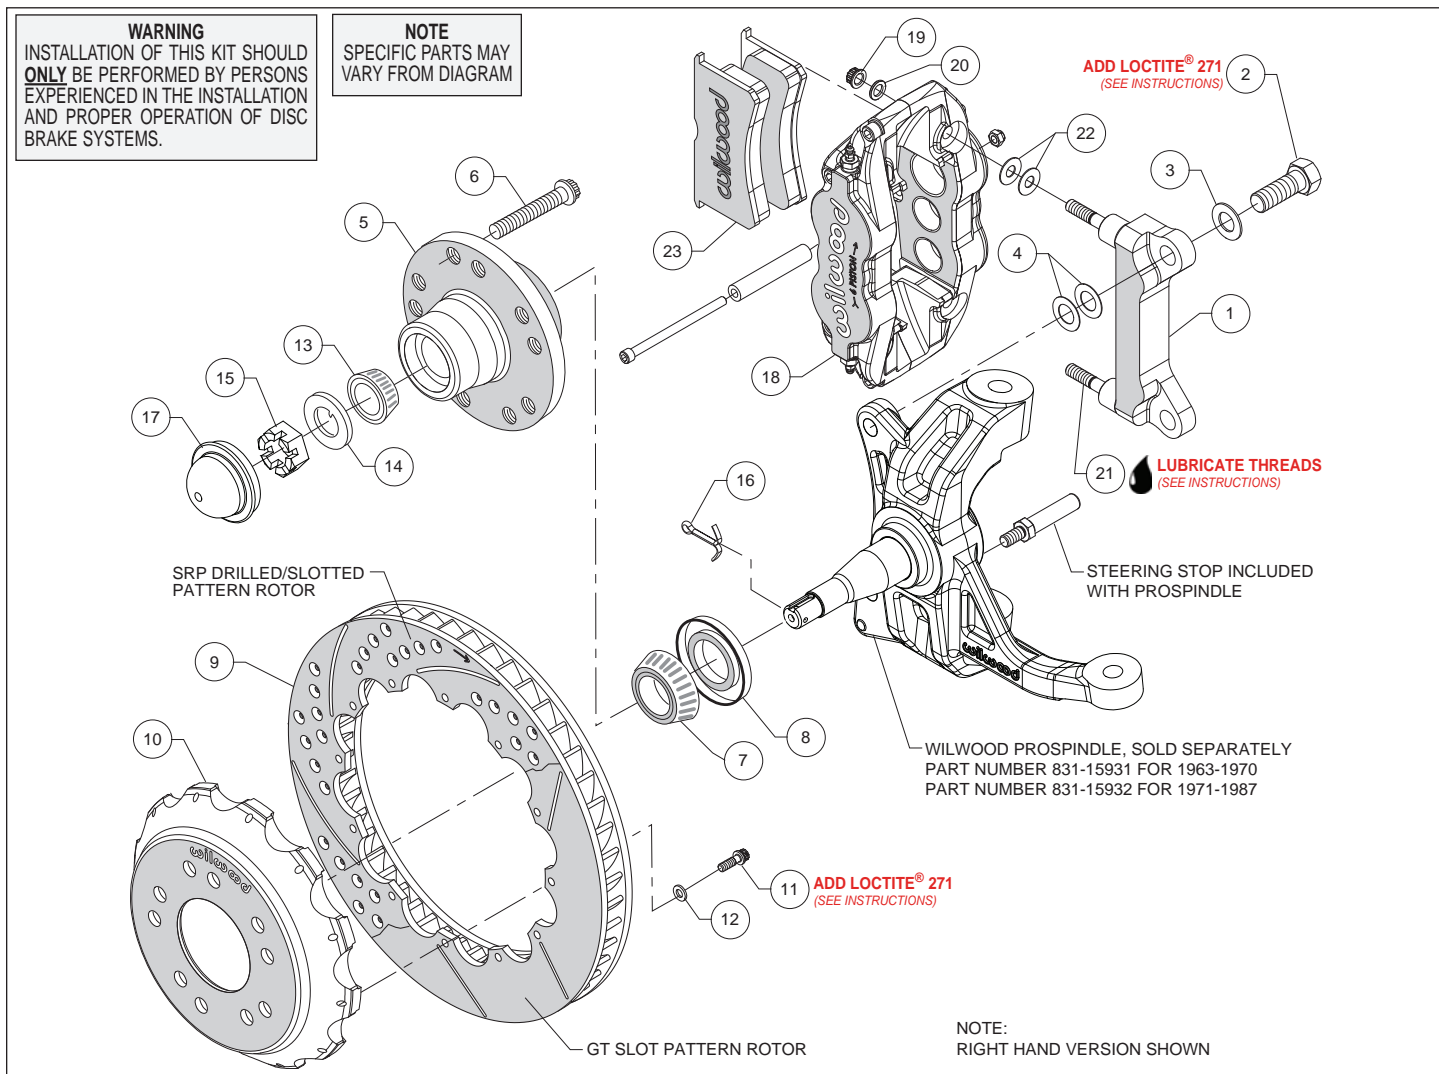
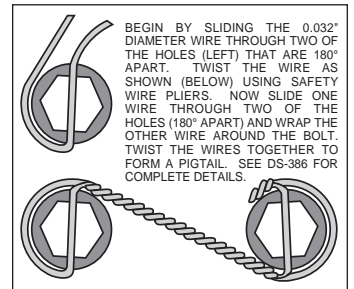

Figure 1. Typical Installation Configuration
Figure 3. Safety Wire Diagram
**Assembly Instructions** (numbers in parenthesis refer to the parts list and Figure 1 on the preceding pages):
- Install the steering stop bolt (included with the ProSpindle) into the spindle as shown in Figure 1 and Photo 1. Torque to 25 ft-lbs.
- The caliper mount bracket (1) should initially be installed with clean, dry threads on the mounting bolts. Orient the bracket, as shown in Figure 1 and Photo 2, and install using bolts (2) and washers (3). Initially place two .024" thick shim (4) on each bolt between the bracket and spindle, Figure 1. Temporarily tighten the mounting bolts. **NOTE:** The bracket must fit squarely against the mount bosses on the spindle. Inspect for interference from casting irregularities, machining ridges, burrs, etc. Later, after the caliper alignment has been checked, the mount bolts will be secured using red *Loctite*® 271.
- Install wheel studs (6) into the hub (5), Photo 3. Torque to 77 ft-lb. **NOTE:** There are two five lug patterns in the hub (5 x 4.75 and 5 x 5.00). Ensure the correct hub stud pattern is being used to fit the wheel application.
- Press the dust cap (17) into the hub (5). **NOTE:** Do not hammer center of cap. Install using outer flange only.
- Orient the rotor (9) and the hat (10) as shown in Figure 1 and Photo 7. Attach rotor to hat using bolts (11) and washers (12). Using an alternating sequence, apply red *Loctite*® 271 to the threads, and torque to 155 **in-lbs**. For an added measure of security, the bolts may be safety wired using standard 0.032 inch diameter stainless steel safety wire as shown in Figure 3. Refer to Wilwood's data sheet DS-386 (available at [www.wilwood.com/Pdf/DataSheets/ds386.pdf](http://www.wilwood.com/Pdf/DataSheets/ds386.pdf)) for complete safety wire installation instructions.
the caliper and the bracket, as shown in Figure 1 and Photo 9. Mount the caliper (18) onto the bracket (1) using lock nuts (19) and washers (20), Figure 1. Temporarily tighten the lock nuts. Ensure that the caliper is mounted so that the largest pistons are at the rotor exit end of the caliper, in relation to the direction of rotor rotation. View the rotor through the top opening of the caliper. The rotor should be centered in the caliper, Photo 10. If not, adjust by adding or subtracting shims (4) between the bracket and the spindle. Always use the same amount of shims on each of the two mounting bolts. Once the caliper alignment is correct, remove the bracket mounting bolts one at a time, apply red *Loctite*® 271 to the threads, and torque to 140 ft-lb.